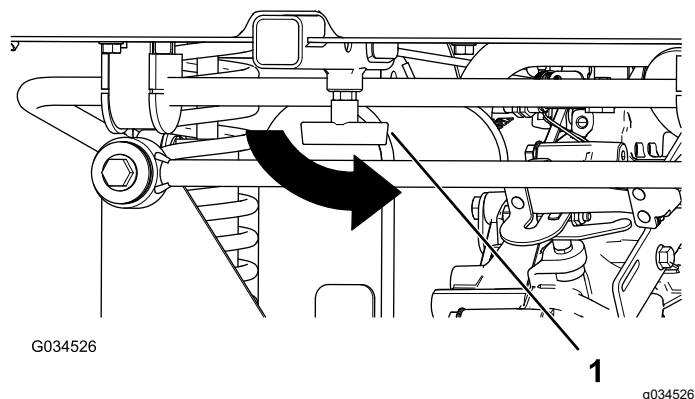

Figure 19
4. Tighten the “T” handle by rotating it counterclockwise (Figure 19).